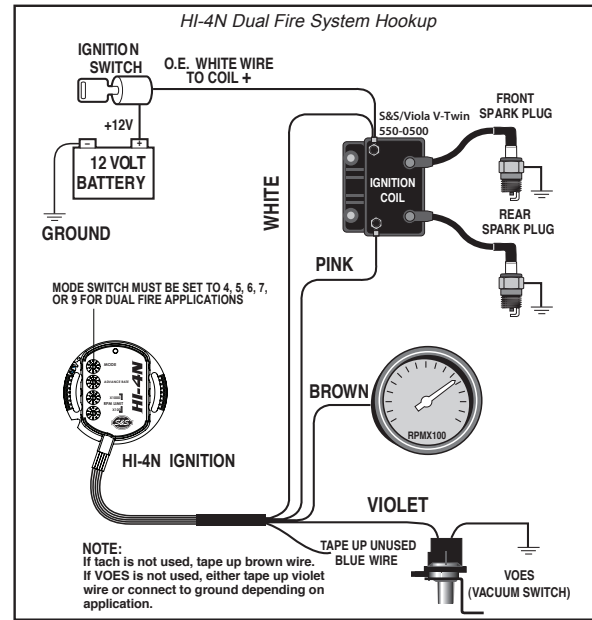

Figure 1
HI-4N Ignition With Stock-Style Dual Fire Coil. Dual fire mode (sometimes called Wasted Spark) is designed to use the stock ignition coil on most applications. **Refer to Figure 1.**
- Refer to **Figure 1, 2, or 3** depending on your application. Connect the HI-4N white wire and switched +12 volt wire to Coil + (positive)
The OE vacuum operated electrical switch (VOES) is an open circuit when vacuum is below the setting of the switch. Lighter bikes generally have a VOES that opens at 3-5 inch-Hg, while the VOES used in heavier bikes such as touring models and on high performance engines. open at 6-7 in Hg. In low load operation when vacuum is above the VOES switch point, the VOES closes and grounds the vacuum input on the module. When this condition exists, the module uses the High Vacuum or Full Advance curve which provides more advance. When engine is under a load with throttle partially to fully open, manifold vacuum is reduced and the VOES opens the circuit, causing the module to switch to the Retarded Curve with less advance. This is designed to prevent knock on acceleration or under heavy loads, but allows full advance at cruising speeds, improving driveability and fuel economy. Connect the VOES to the HI-4N violet wire as shown in **Figures 1, 2, or 3.**
This includes most models prior to 1985. Fuel economy and driveability will be improved if you install a VOES and connect it to the HI-4N violet wire as shown in **Figures 1, 2, and 3.** We recommend you use H-D® VOES P/N 26566-91 or S&S/Viola V-twin P/N 550-0399 for lighter bikes with stock to mild engines and S&S/Viola V-twin P/N 55-1248 for touring and high performance applications. If a VOES is not used, the violet wire may be grounded to use the Full Advance curve, or taped up to use the Retarded curve, depending on the application and timing requirements of the engine.